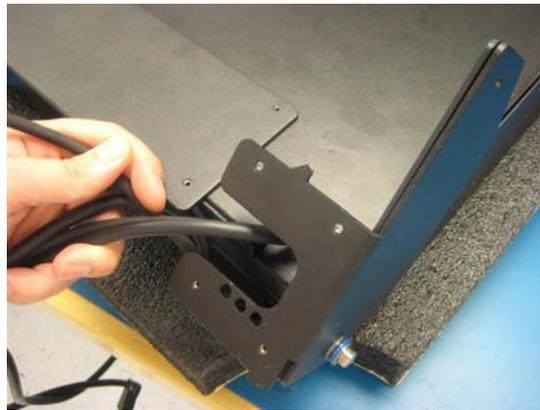

Figure 3-32
- 3) Open the pivoting bracket to allow the cables to be released. (Figure 3-32).